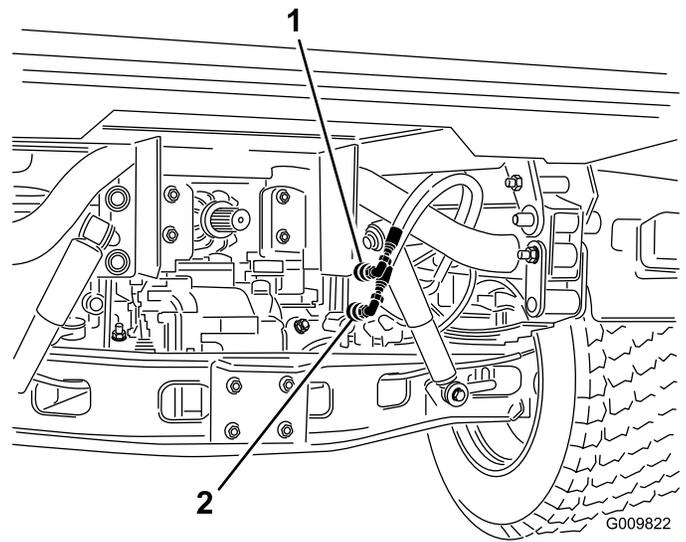

Figure 92
- On both vehicles, disconnect the 2 quick coupler hoses from the hoses secured to the coupler bracket (Figure 92).